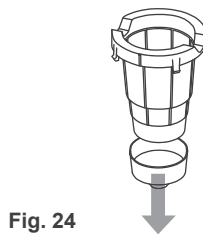

Fig. 24
1. There are two bottom Needles inside the Red Cup Holder. Pull down the bottom funnel from the top Holder. (Fig. 24)